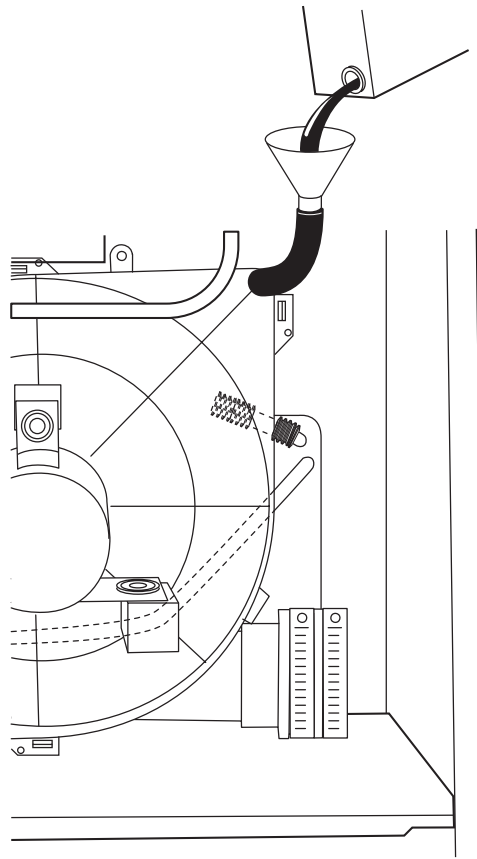

**Fig. 19 - Funnel in Drain Tube and Antifreeze
5. Insert funnel in tube and pour one quart of antifreeze, propylene glycol (RV, swimming pool antifreeze, or equivalent) into funnel/tube until it is visible at point where condensate enters open drain. (See Fig. 19.)